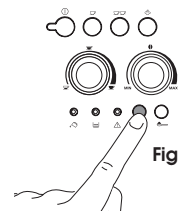

Figure 28
- Press and hold the  button for at least 5 seconds (Figure 28). The